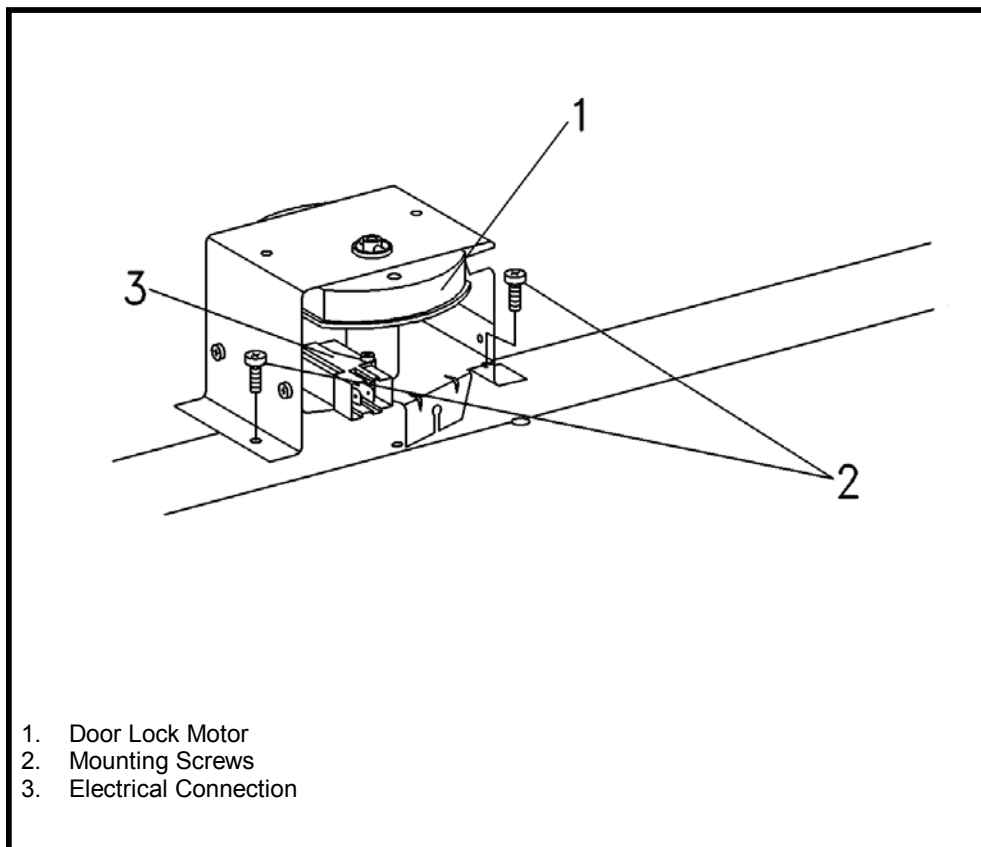

Figure 5-10: Door Latch Drive Motor Assembly
4. Refer to Figure 5-10. Unplug the electrical connections to the Door Lock Motor (Item 3).
5. Refer to Figure 5-10. Unplug the electrical connections to the Door Lock Drive Motor (Item 3).